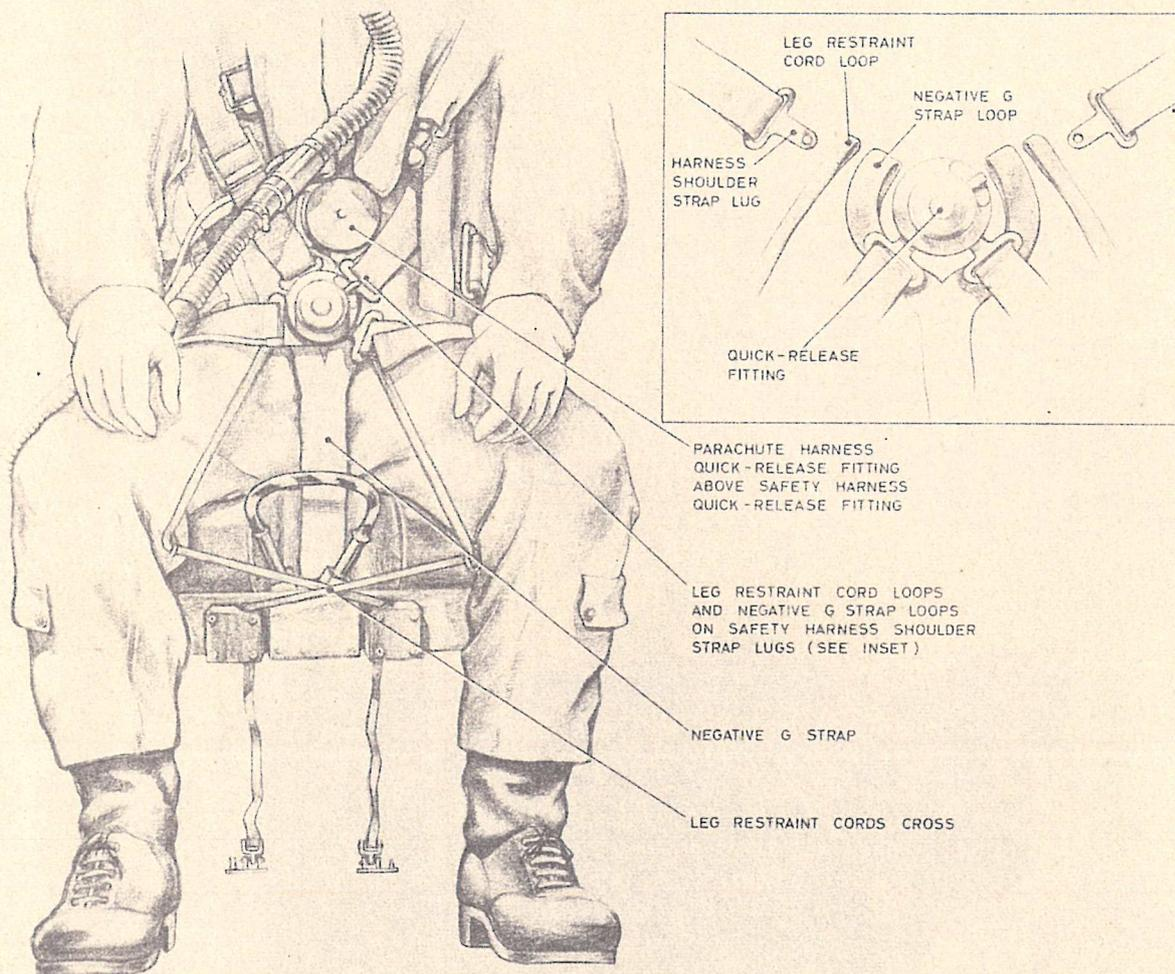

Fig. 4. Arrangement of leg restraint cords (inset: Assembly to quick-release fitting)
23. The strapping-in procedure is as follows; refer to fig. 4 to 6 for detail as necessary:-
- (6) Pass the parachute harness leg straps through the leg loop and couple the lugs to the quick-release fitting.
- (7) Adjust the quick-release fitting so that it lies centrally with the waistbelt close to the body.
- (8) Tighten the shoulder straps first so that the parachute harness quick-release fitting will lie above and clear of the safety harness quick-release fitting when assembled.
- (9) Tighten the parachute harness leg straps. When tightening harness straps, pull on the running end with one hand and push on the standing end with the other hand to relieve the tension on the buckles.
- (10) Connect the air supply hose to the air ventilated suit (if worn).
- (11) Fasten the lap straps of the safety harness but do not tighten.
- (12) Draw the negative-G restraint strap up between the legs and tuck the V-shaped end under the safety harness. Ensure that the negative-G restraint strap is clear of the seat pan firing handle.
- (13) Thread the leg restraint cords through the quick-release coupling rings on the garters as follows:—
- (a) Pass the cord emerging from the snubbing unit behind the left leg through the garter ring on the right leg and UNDER the safety harness lap strap. Insert the lug of the safety harness right shoulder strap through the loop at the end of the leg restraint cord and also through the loop at the end of the right branch of the negative-G restraint strap. Secure the lug in the quick-release fitting (see inset of fig. 4).